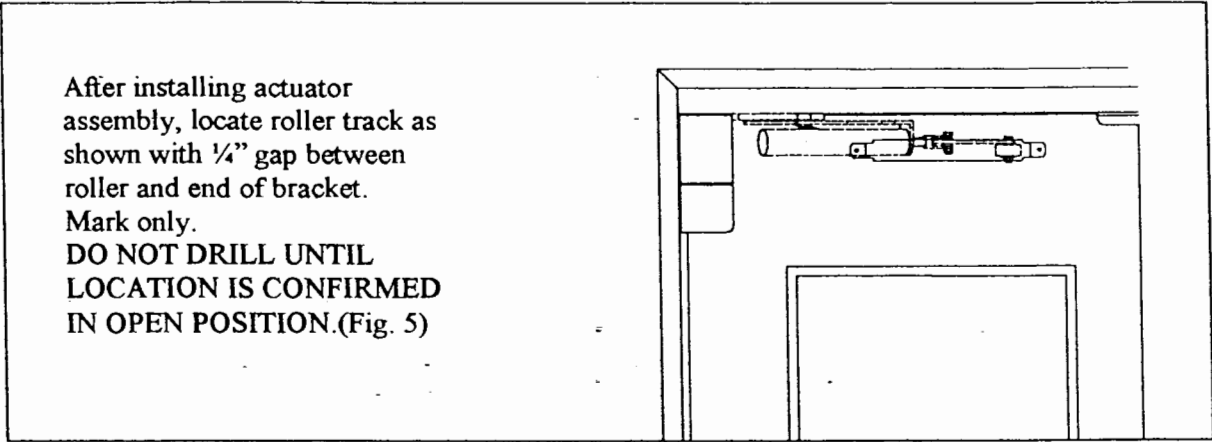

Fig. 4
Step 6. Install track assembly using hardware provided in mounting kit, P/N B8111. See Fig. 4 & 5 for details and dimensions.
Step 6. Install track assembly using hardware provided in mounting kit, P/N DD-8510. See Fig. 4 for details and dimensions.